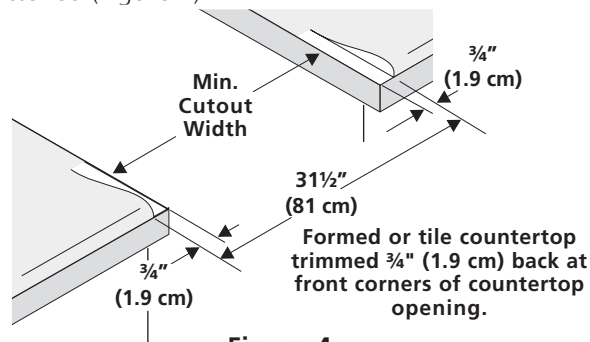

Figure 4
- **Formed front-edged countertops** must have molded edge shaved flat $\frac{3}{4}$ " (1.9 cm) from each front corner of opening (Figure 4).
- **Tile countertops** may need trim cut back $\frac{3}{4}$ " (1.9 cm) from each front corner and/or rounded edge flattened (Figure 4).